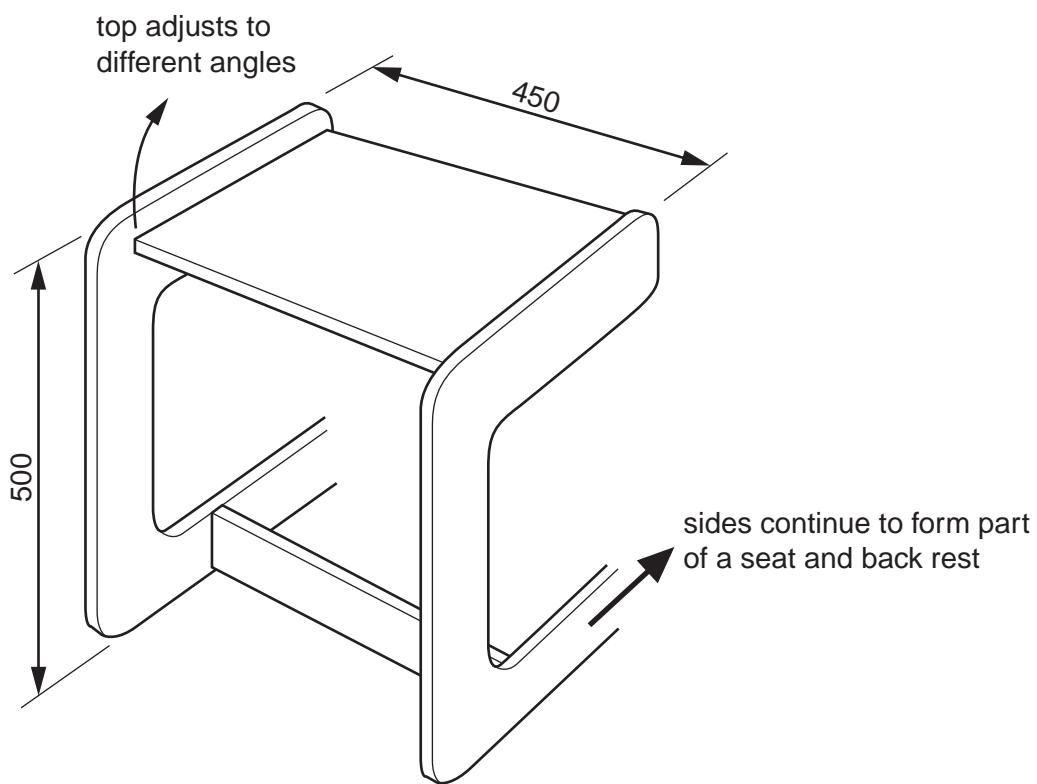

Fig. 8
- 7** Fig. 8 shows an incomplete idea for a child's combined desk and chair.